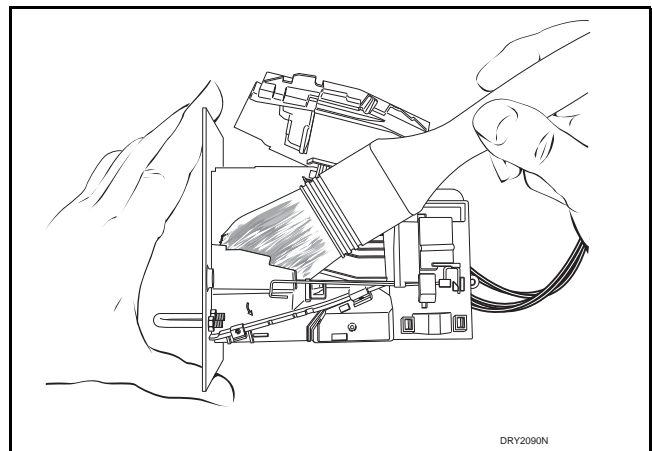

Figure 64
- Clean the coin path with a soft brush and wipe exposed surfaces with an alcohol moistened cloth. Refer to *Figure 64*.